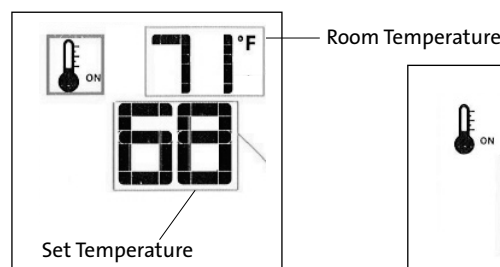

Figure 8.17. Thermostat ON.
- To activate this function, press the Thermostat Key. The display will indicate that the room thermostat is “ON” and the current Set Temperature is now displayed. Fig. 8.17.